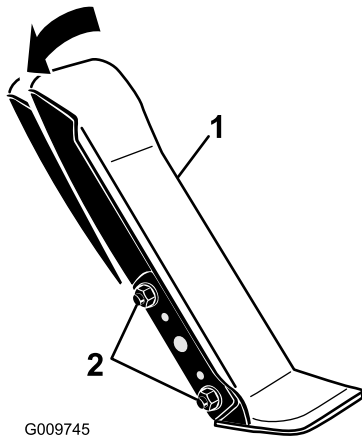

Figure 72
1. Loosen the two nuts and bolts securing the left side of the traction pedal to the bracket (Figure 72).
2. Pivot the pedal to the desired operating angle and tighten the nuts (Figure 72).